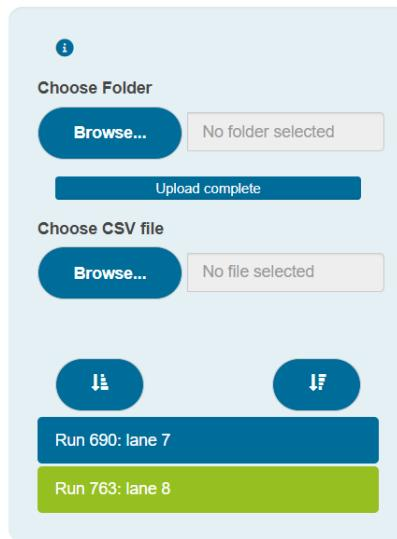

Fig. 4.4. All uploaded runs will appear in the navigation bar.
3. Once the upload is complete the runs will appear in the *navigation bar*. To upload multiple files/folders click the **Browse** button again, and these new runs will appear in the *navigation bar* (Fig. 4.4).